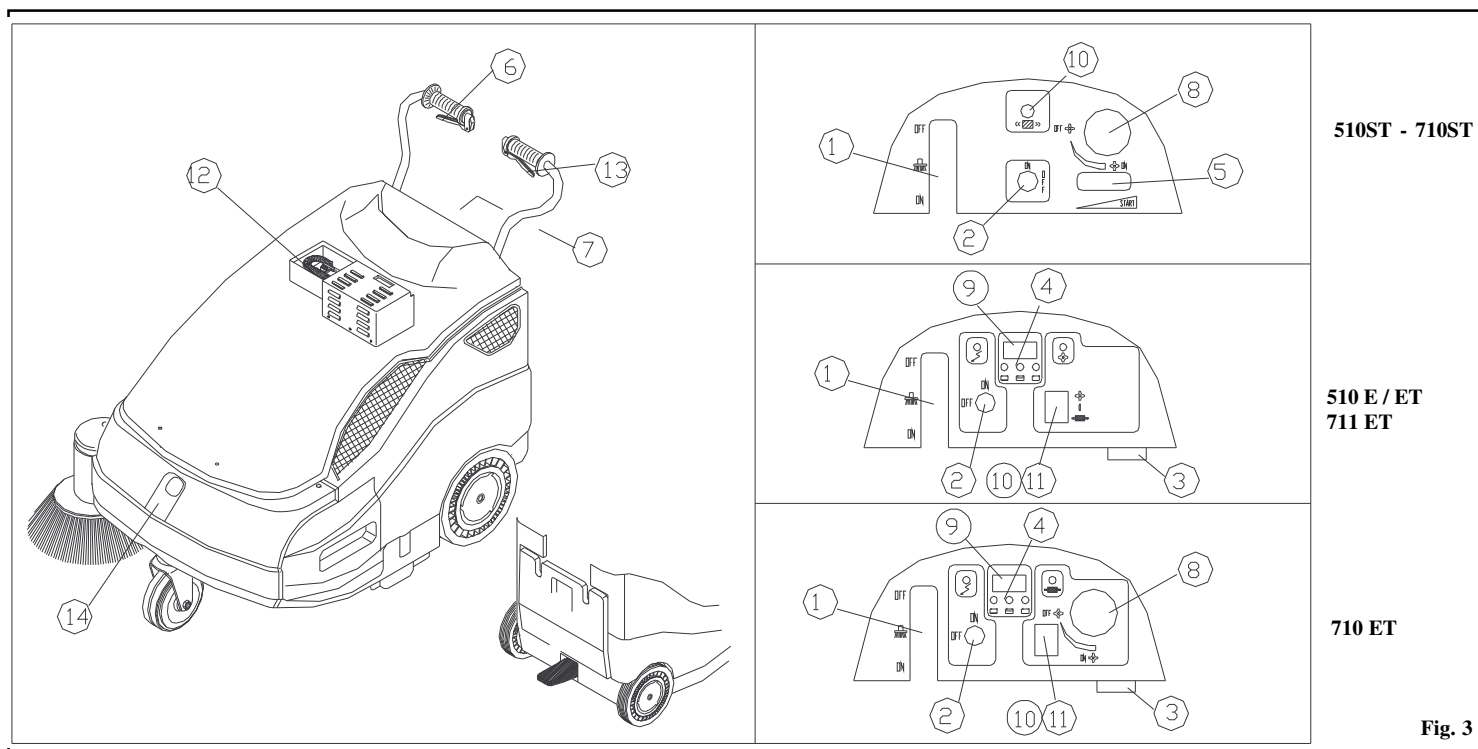

Fig. 3
- Switch the brush lift lever **pos. 1 Fig. 3**, to **OFF**.
you will not be able to operate the key **pos. 2 Fig. 3** on the dashboard. For more detailed information on the engine consult the relevant manual.
- Make sure the side brush **pos. 1 Fig. 3** is **OFF**.
- Turn the switch **pos. 2 Fig. 3 ON**. Wait 10 seconds before the machine sets off.
- Before the machine sets working, check the indicator **pos. 4 Fig. 3**, to assess whether the battery is fully charged. If it is not, proceed to recharge it.
- Pull the traction lever **pos. 6 Fig. 3**, to start cleaning.
- If necessary, operate lever **pos. 1 Fig. 3**, by turning it **ON**, to start the side brush. If you have been using the side brush, at the end of your work remember to turn it **OFF**. Switch off the machine and remove the key from the control panel.
- Make sure the side brush **pos. 1 Fig. 3**, is **OFF**.
- Switch accelerator lever **pos. 5 Fig. 3**, to **START**.
- Place the key **pos. 2 Fig. 3** on **ON** position.
- Act on the accelerator **pos. 5 Fig. 3**, to reach the required speed.
- At the end of your work, if you have been using the side brush **pos. 1 Fig. 3** turn it **OFF**. Turn the accelerator lever to **START** and turn off the machine with the key **pos. 2 Fig. 3**. Close up fuel tap **pos. 3 Fig. 4**.
- Plug in a battery charger **pos. 3 Fig 3** bearing up to 12V 10A.
The life of the battery will depend on its routine maintenance and on its discharge level. Do not allow the battery charge to drop below the limit signalled by indicator lights **pos. 4 Fig. 3**. Got to the max. discharge level, the machine stops and need to be re-charge in order to restart working.
- A) Press and release the lever of the appropriate filter shaker **pos. 7 Fig. 3**. The lever operates a rod that will unclog the filter. Repeat this operation 5 or 6 times.